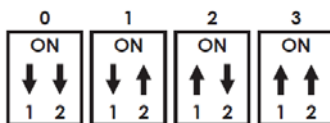

Figure 13: IR Remote Address Number
2. Assign an address number (from 0 to 3) that matches the setting on the remote used with the unit (Figure 13). The default factory setting is 0.